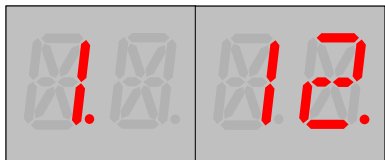

Figure 6d: SV with new stored value. Selecting this unstored value will store it, and a decimal point appears to its right indicating it is the stored value.
5. Pressing the SELECT pushbutton will store the displayed value for this SV. A decimal point appears to the right of the value to indicate it is the new stored value. See **Figure 6d**.